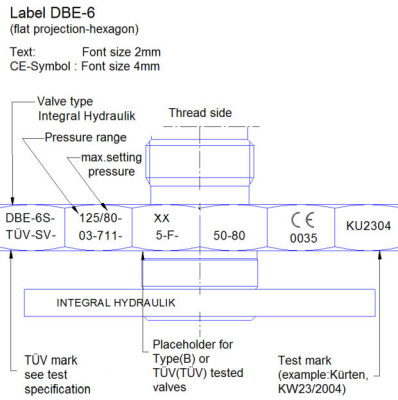
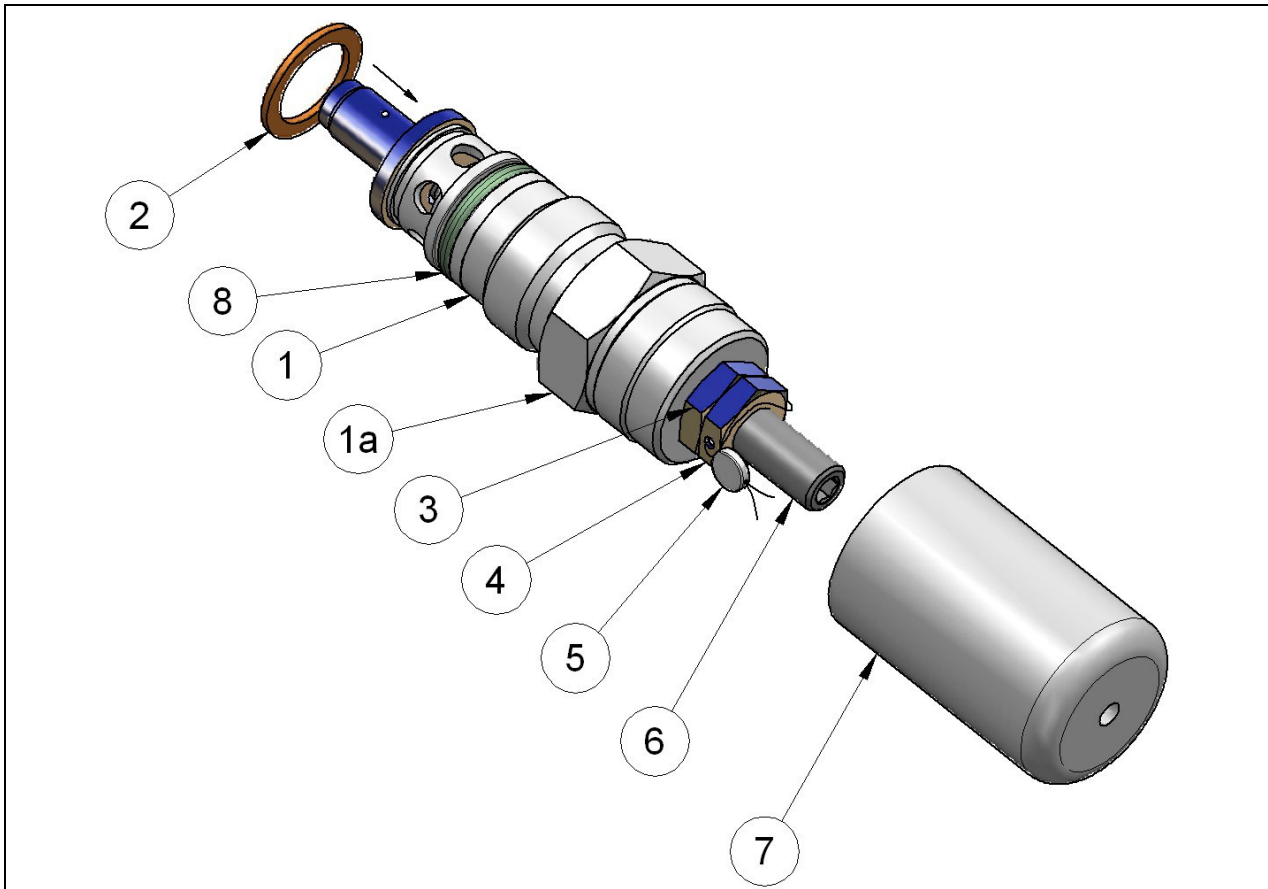

Figure 2: Valve label
Figure 3: DBE pressure relief valve
The integrity of the O-ring (fig. 3, item 8) and the Usit ring (fig. 3, item 2) must be checked extra carefully.
Use only the housing hexagon (fig. 3, item 1a) and spanner size **SW 30** to install the valve.
- Compare the type designation/rated values on the housing hexagon (fig. 2) to the application requirements.
- Remove the protective cap (fig. 3, item 7)
- Unscrew the valve at the housing hexagon (fig. 3, item 1a)
- Check that the Usit ring (fig. 3, item 2) has been removed from the screw-in housing hole
- Compare the stamped information on the hexagon with the documentation supplied and the operating conditions (fig. 2 and fig. 3, item 1a)
- Visually check the seal (fig. 3, item 5) and the seal wire for damage.
- Correctly apply the protective cap (fig. 3, item 7)
- Compare the stamped information on the hexagon (fig. 3, item 1a) with the documentation supplied and the operating conditions.
- Visually inspect the seal (fig. 3, item 5) for any damage
- Loosen the lock nut (fig. 3, item 3) and seal nut (fig. 3, item 4)
- Turn the adjusting spindle (fig. 3, item 6) in an anti-clockwise direction (hexagon socket **SW5**) until it has reached the stop (setting: depressurized)
- Set the desired pressure by turning the adjusting spindle (fig. 3, item 6) in a clockwise direction while using a suitable operating pressure indicator.
- Tighten the lock nut (fig. 3, item 3) on the valve body (fig. 3, item 1) to lock this setting.
- Apply the protective cap (fig. 3, item 7) to cover the adjusting spindle (fig. 3, item 6)
- Tighten the lock nut (fig. 3, item 3) on the valve body (fig. 3, item 1) to lock this position.